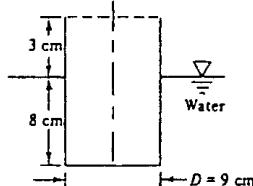

Fig. P2.104
- 2.104** The can in Fig. P2.104 floats in the position shown. What is its weight in newtons?